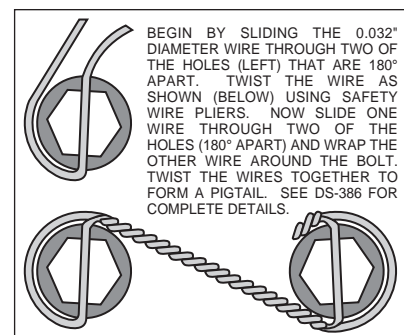

Figure 3. Safety Wire Diagram
- Install wheel studs (8) into the hub (9). Torque to 77 ft-lb. **NOTE:** There are two five lug patterns in the hub (5 x 4.50 and 5 x 4.75). Make sure of the correct hole pattern for the correct wheel application before installing studs into hub.
- Pack the large inner bearing cone (10) with high temperature disc brake bearing grease (available from your local auto parts store) and install into the backside of the hub (9).
- Install the grease seal (11) by pressing into the backside of the hub (9).
- Pack the small outer bearing cone (17) with high temperature disc brake bearing grease and install into front of hub (9). Slide the hub assembly (8, 9, 10, 11 and 17) onto the spindle. Secure using spindle washer (18), stock adjusting nut and nut locking device. Bearing adjustment: Tighten the nut while turning the hub. When there is a slight bind on the bearings, they are seated correctly. Back the nut off about 1/6 to 1/4 of a turn, or sufficiently to allow .001" to .007" end play. **WARNING:** Failure to back off adjusting nut could cause bearing to run hot and be damaged, which could cause the wheel to lock or come off.
- Install the o-ring (19) on the dust cap (20), and screw dust cap assembly onto the hub (9). Friction created by the o-ring (19) on the dust cap (20) keeps it from unscrewing.
- With the larger I.D. side of the rotor (12) facing away from the hat (13), bolt rotor (12) to hat (13) through the backside of the rotor using washers (14) and bolts (15). Using an alternating sequence, apply red *Loctite*® 271 to the threads and torque bolts to 155 in-lb. For an added measure of security, the bolts may be safety wired using standard 0.032 inch diameter stainless steel safety wire as shown in Figure 3. Please refer to Wilwood's data sheet DS-386 (available at [www.wilwood.com/Pdf/DataSheets/ds386.pdf](http://www.wilwood.com/Pdf/DataSheets/ds386.pdf)) for complete safety wire installation instructions.
- Slide the rotor/hat assembly over the studs (8) in the hub (9) taking care to align the small countersunk holes in the hat (13) with the small threaded holes in the hub (9). Install three flat head socket head screws (16) through the small holes in the hat (13) and torque to 85 in-lb.